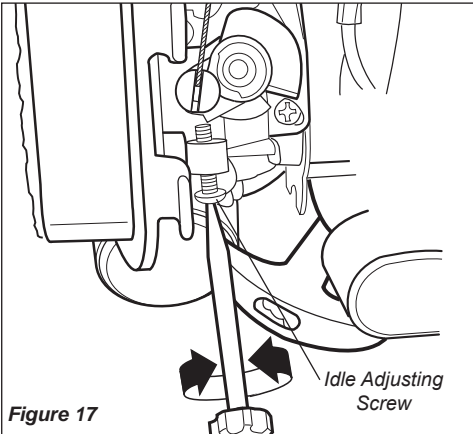

Figure 17
- If the attachment rotates when the engine is at idle, reduce the idle speed by turning the idle adjustment screw counter-clockwise. See Figure 17.